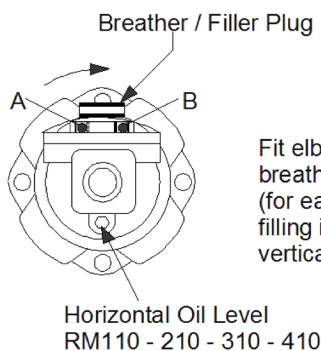
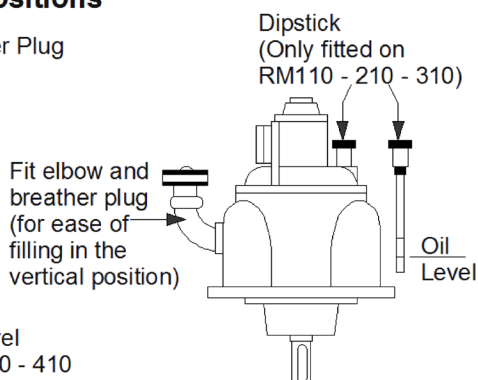

Fig. 1
Fig. 2
The motor is normally mounted in a horizontal position with the filler / breather plug towards the top (Fig. 1). It may also be mounted with the shaft vertically downwards (Fig. 2). As supplied the motors have been run up and tested using protective oil and then drained for transit. It is vital that each motor is re-filled to the correct oil level as shown below. The RM 110 - 310 motors have a dipstick for vertical mounting (Fig. 2) and the lower mark on this dipstick provides the oil level. Oil levels are achieved on motors in the horizontal position by filling to the plugs marked 60 (RM 110-410 models) and plug 26 (fitted in housing 3 RM510-610 models). (numbers indicate parts on exploded view) The vertical oil level position for the RM410, RM510 and RM610 motors is a combined horizontal drain and vertical level plug (part number 26). To fill motors with oil remove the combined breather and oil filler plug part number 46. Ensure breather plug is in the vertical position. It may be necessary to fit an elbow between the breather plug and the motor (see Fig. 2).
Mount motor in operating position. Check oil level, (as seen on Fig. 1). Before connecting to the air supply blow out the air lines to remove any loose scale, swarf or abrasive dust which may be present. Remove the red plastic dust-caps and the 'O' ring seal (45). For unidirectional operation check the required direction of rotation and connect the air supply line to the appropriate port on the inlet / exhaust adaptor plate (72) leaving the other port open or pipe downwards if exposed to the atmosphere. The motor should not be allowed to race. Always operate within the catalogue speed curves.